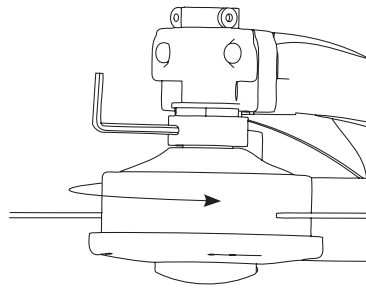

Fig.31
1. Lock shaft by inserting allen key into groove. Loosen by turning head as shown for straight shaft. If your model is a curved shaft, loosen by turning opposite the direction shown in (Fig. 31).